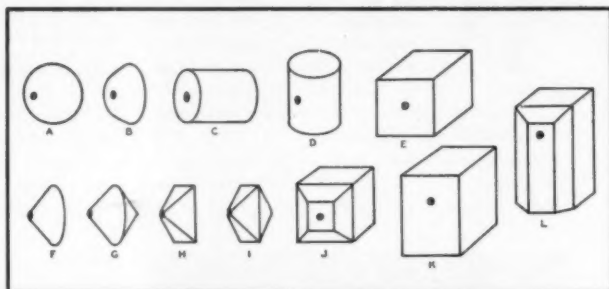
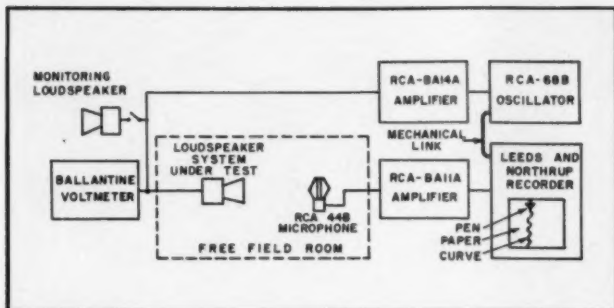

Fig. 2. Direct-radiator loudspeaker mechanism enclosures. The small circle with the dot in the center represents the speaker unit.
Fig. 3. Schematic diagram of the apparatus for obtaining the response-frequency characteristics of loudspeakers.
The enclosures used in these experiments are depicted in Fig. 2. The sheet metal sphere shown at (A) is 2 ft. in diameter. The loudspeaker mechanism is mounted with the cone approximately flush with the surface. The sheet metal hemisphere shown at (B) is 2 ft. in diameter with the back closed by a flat board of hard wood. The loudspeaker mechanism is mounted upon the zenith of the hemisphere with the cone of the loudspeaker mechanism approximately flush with the surface. The sheet metal cylinder shown at (C) is 2 ft. in diameter and 2 ft. in length. The ends of the cylinder were closed by plywood boards of hard wood. The loudspeaker mechanism is mounted in the center of one end with the cone of the loudspeaker mechanism mounted flush with the surface. The cylinder shown at (D) is of the same size as that of (C). In (D) the cone of the loudspeaker mechanism is mounted approximately flush upon the cylindrical surface midway between the ends. The sides of the wood cube shown at (E) are 2 ft. in length. The loudspeaker mechanism is mounted in the center of one face with the cone flush with the surface. The base of the sheet metal cone shown at (F) is 2 ft. in diameter. The height of the cone is 1 ft. The base of the cone is closed by
The small loudspeaker mechanism of Fig. 1 was mounted in the enclosures shown in Fig. 2. In obtaining true diffraction effects it is important that reflection effects produced by room in which the response-frequency characteristic is obtained be reduced to a negligible minimum. Therefore, all the response-frequency characteristics depicted in this paper were obtained in the free field room² of the Acoustical Laboratory of the RCA Laboratories. A schematic diagram of the apparatus used for obtaining the response-frequency characteristics, along with detailed designations of the components are shown in Fig. 3. The complete recording system—including the RCA-44B velocity microphone, BA1A amplifier, and Leeds and Northrup Speedomax recorder—was calibrated by the free
Figs. 6 to 17. Response-frequency characteristic of a small direct-radiator loudspeaker mechanism mounted in the enclosures of Fig. 2.